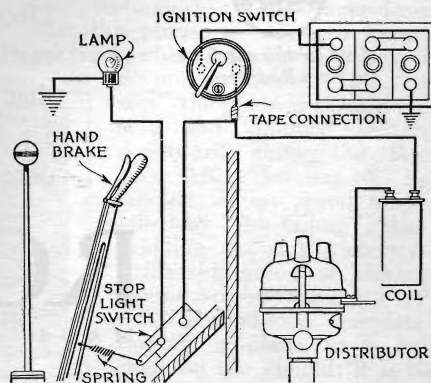

Fig. 4. An indicator light fastened to the dashboard and wired in this way will save you from attempting to start the car with the emergency brake set
**JOHN ODILL**, of Norway, Mich., wins the \$10 prize this month with his suggestion for a brake position indicator (Fig. 4). **POPULAR SCIENCE MONTHLY** awards \$10 each month, in addition to regular space rates, for the best suggestion sent in for motorists. Other contributions published are paid for at the usual rates.
IT IS safe to say that practically every driver of an automobile occasionally attempts to start his car with the emergency brake set. Ordinarily, the driver notices something is wrong at once and so no damage is done, but there have been many cases where propeller or axle shafts have been snapped off or transmission gears seriously damaged. And there are many otherwise excellent drivers who never seem to get over the habit of forgetting to release the emergency brake. Fig. 4 shows a novel way to prevent this trouble. A special lamp automatically indicates when the emergency brake is on, but it lights only if the ignition also is turned on, and therefore does not stay lit when you leave the car with the emergency brake set.